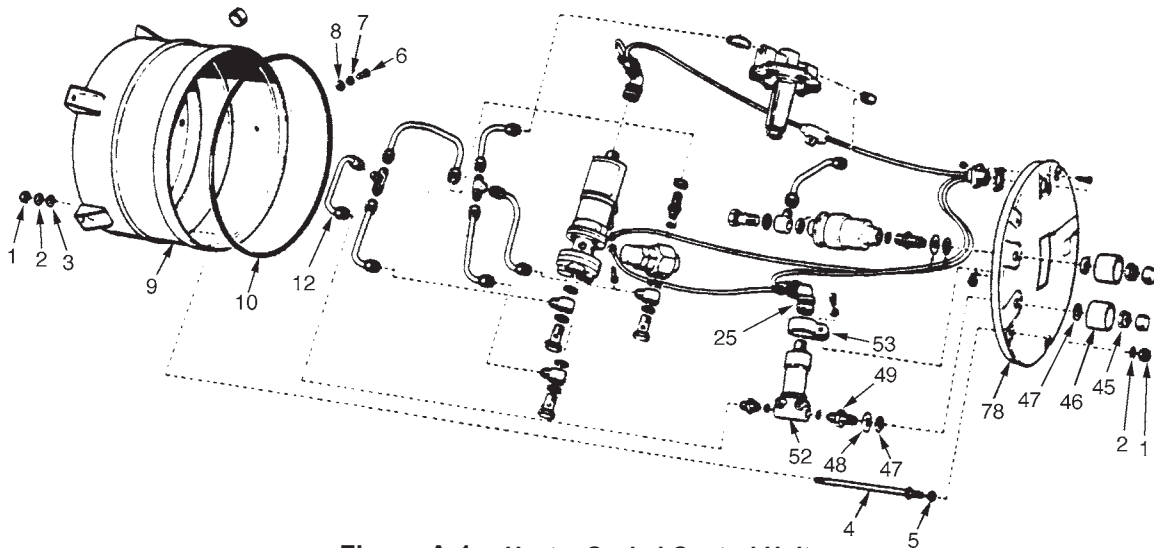

Figure A-1 - Heater Sealed Control Unit
NOTE: If overhauling the 65C30 Sealed Control Unit, HET Janitrol Overhaul Manual 93C35 and 02D01 supplement must be used for all procedures including disassembly, assembly, and testing. If a repair to replace the Solenoid Valve Assembly is being done, use only the instructions in this Service Information Letter to effect the repair. Refer to Fig. A-1.
- (10) Using the position noted in step 3.B (8), install the flat washer (48) and new gasket P/N AN900-7 (47) on the union. Insert the union, with the arrow pointing towards the base, in the fuel outlet port. Install the new gasket AN900-7 (47), shroud (46), and nut (45) snug but do not tighten. (Refer to Figures A-1, A-3, & A-4.)
- (12) Position the Solenoid Valve so that the fuel tube removed in step 3.B(5) will fit without difficulty. Refer to Figures A-1 and A-2 as needed.
- (13) Reconnect the fuel tube (12) but do not force. If B nuts will not finger tighten first, then reposition the Solenoid Valve Assembly for proper alignment and tighten. Use standard torque for B nut fittings.